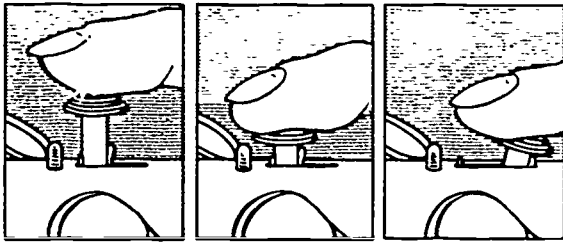

Figure 4-5. Controlling an airbrush.
**Operating the Airbrush.** Air and paint that pass through the airbrush are controlled by manipulation of the control level. The operation is shown in figure 4-5. When the control lever is in the raised position, as shown in the illustration to the left, neither air nor paint passes through the brush. When the control lever is pushed down, as shown in the center illustration, air passes through the brush but no paint is discharged. Pulling the control lever rearward releases the paint which is picked up by the airstream and sprayed from the nozzle. The amount of paint issuing from the brush is governed by the extent to which the trigger is pulled back.